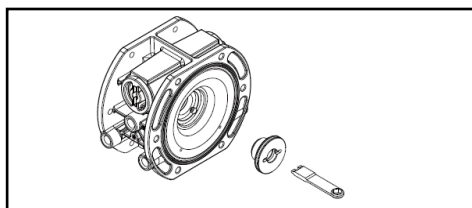

Figure 41
- Remove the diaphragm and center rod etc. (See Figure 41).